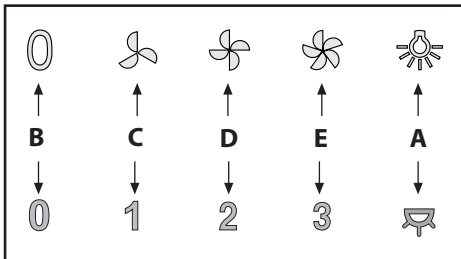

Fig.9
• **Commands** (Fig.9) mechanical the key symbols are explained below: